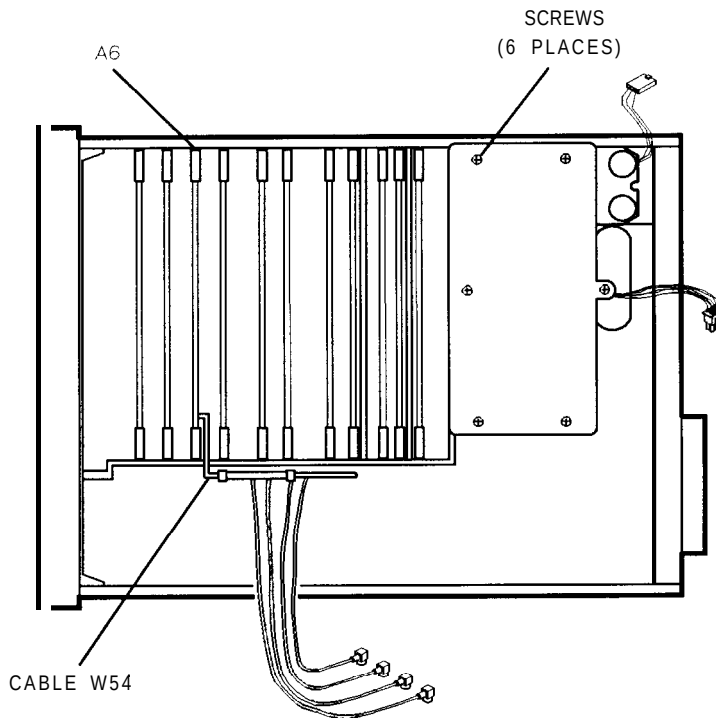

Figure 7-36. Major Assemblies
1. Remove the six screws from the regulator shield. Refer to Figure 7-36.